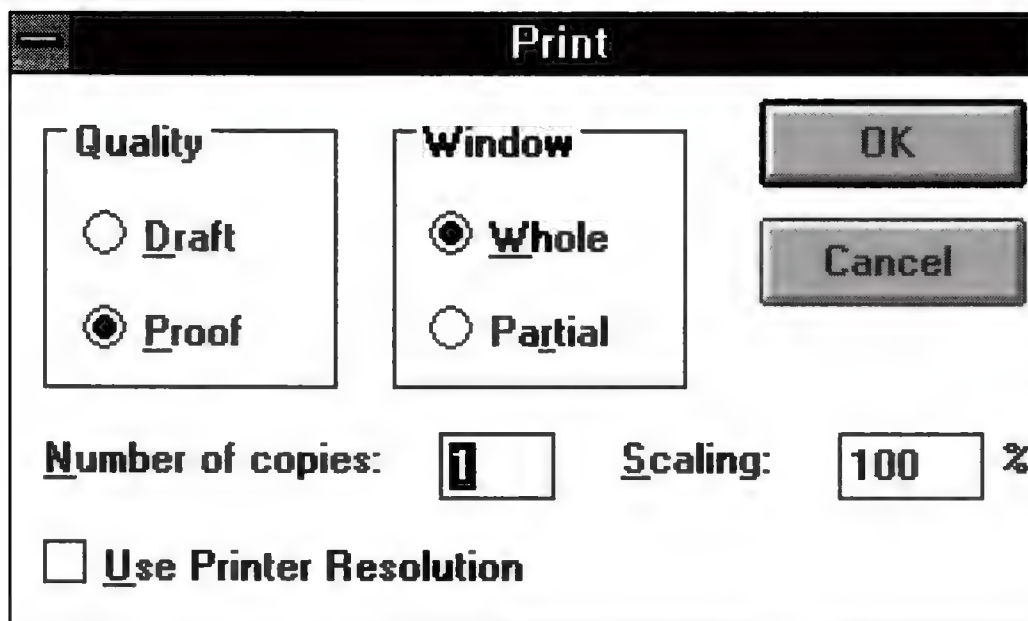

Figure 2.12 Deciding whether to print a 6-page map, 1-page map, or partial cropped image in Paintbrush
9. You are now ready to print! Select Print from the File menu, and in the Print window that opens up you will have one last decision to make, as shown in Figure 2.12.